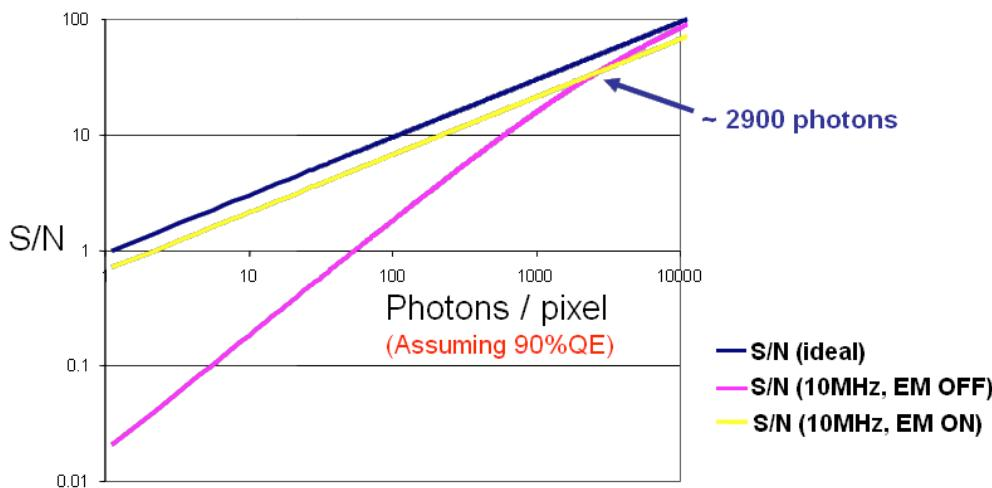

Figure 12: Signal to noise plots EM Gain ON vs. EM Gain OFF for back-illuminated iXon Ultra EMCCDs at 10MHz readout speed
Signal to Noise (S/N) plots derived from the specifications of the back-illuminated iXon Ultra EMCCDs (**Figure 12**), read out at 10MHz for a photon wavelength at which the **Quantum Efficiency (QE)** of the sensor is assumed to be 90%. Such plots are very useful to gauge at what signal intensity it becomes appropriate to use EM Gain to increase S/N.